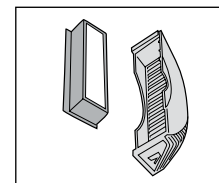

Fig.7/8
3. Remove the post-motor filter (Fig.7/8).